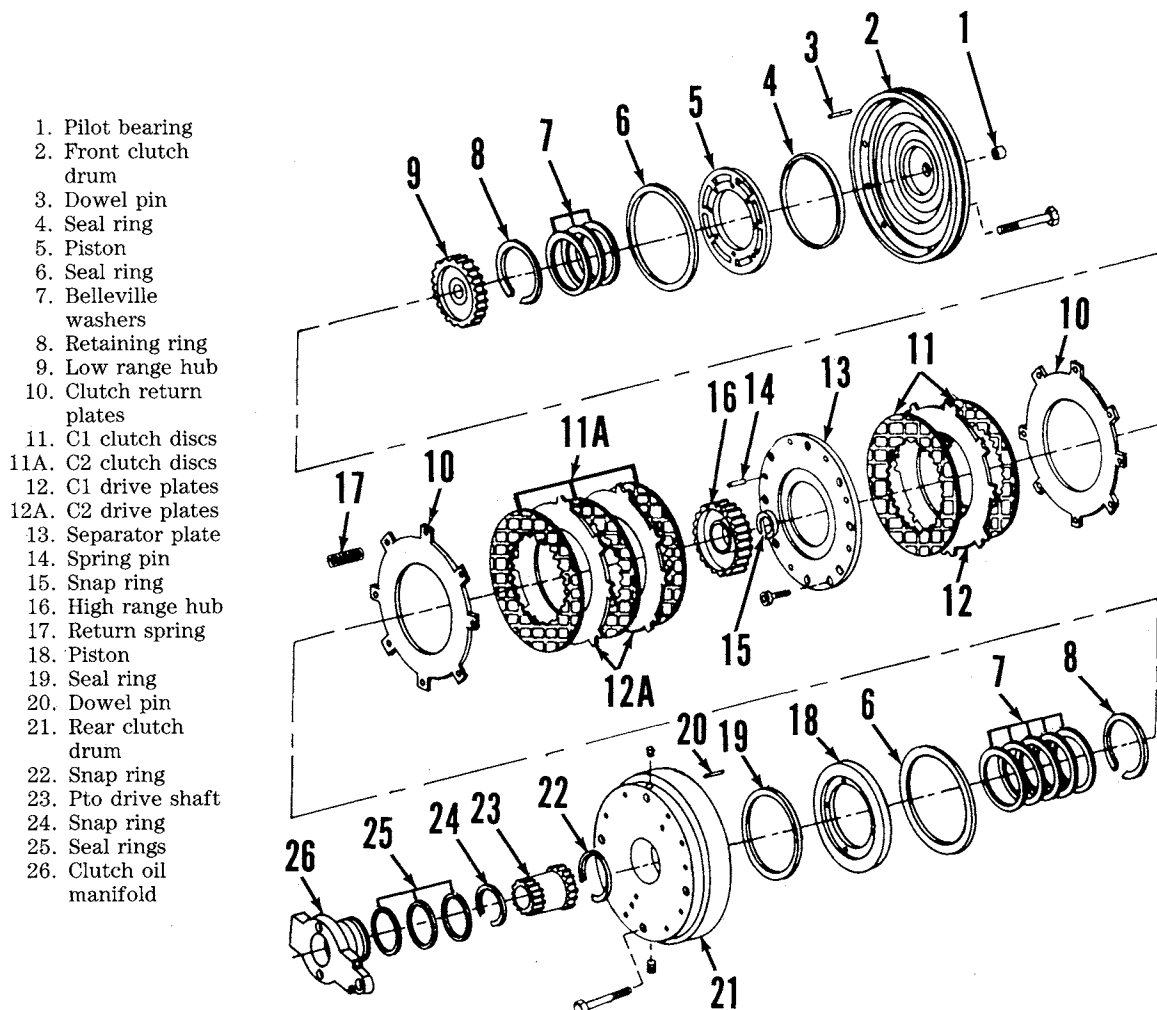
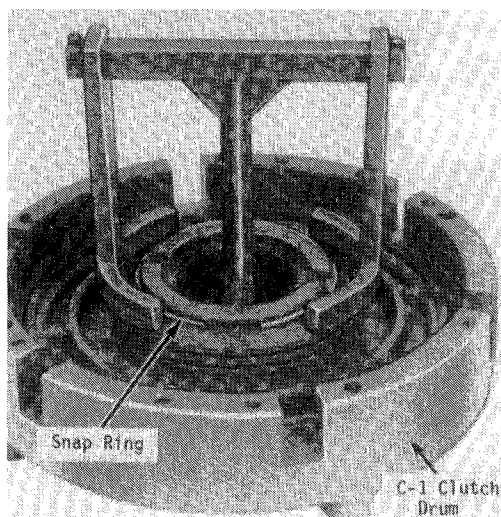

Fig. 164—Exploded view of C1 and C2 traction clutch assemblies used on Power Shift models.
Fig. 165—Use a suitable horseshoe shaped tool to compress Belleville washers when removing and installing retaining ring.
142. TRACTION CLUTCH AND CLUTCH OIL MANIFOLD. To disassemble traction clutch assembly, first lift pto drive shaft (23—Fig. 164) and clutch
Remove cap screws securing front clutch drum (2) to rear clutch drum (21), then separate drums. Remove return springs (17), high range clutch hub (16), clutch discs (11A), drive plates (12A) and return plate (10) from rear drum. To remove high range piston (18), use a suitable horseshoe shaped tool as shown in Fig. 165 to compress Belleville washers so retaining ring can be removed. Install two 3/8-16 UNC cap screws into threaded holes in piston, then pull piston from drum. Remove and discard seal rings (6 and 19—Fig. 164).
Remove cap screws securing separator plate (13) to front clutch drum. Remove separator plate, low range clutch hub (9), clutch discs (11), drive plates (12) and return plate (10). Use a suitable tool as shown in Fig. 165 and remove low range piston (5—Fig. 164) in same manner as described for high range piston. Remove and discard piston seal rings (4 and 6).
When reassembling, coat all parts with clean hydraulic oil. When installing clutch pistons, be sure antirotation pins (3 and 20) are aligned with hole in pistons. Assemble Belleville washers alternately, beginning with outer diameter of first washer bent toward clutch piston and ending with inner diameter of last washer contacting snap ring as shown in Fig. 166. On Models 4050, 4250 and 4450, three Belleville washers are used on low range piston, while five washers are used on high range piston. On Models 4650 and 4850, five Belleville washers are used on each clutch piston. Assemble clutch discs and drive plates alternately, beginning with a disc and ending with a disc. On Models 4050, 4250 and 4450, two discs (11—Fig. 164) and one plate (12) are used on low range clutch, while three discs (11A) and two plates (12A) are used on high range clutch. On Models 4650 and 4850, three discs and two plates are used on low range clutch pack, while four discs and three plates are used on high range clutch pack. Tighten separator plate (13) mounting screws to 22 ft.-lbs. (30 N·m). When assembling low range drum onto high range drum, be sure spring pins (14) in separator plate engage holes in high range drum. Tighten drum retaining cap screws to 37 ft.-lbs. (50 N·m). Assemble pto drive shaft and clutch oil manifold to clutch drum.